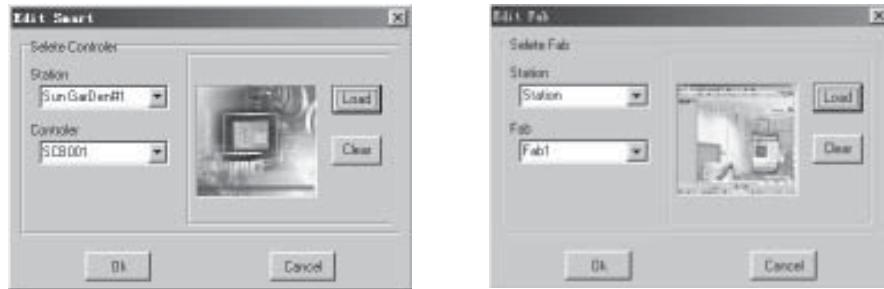

Fig. 4-32 Interface of Inserting FABs
2. Write down the picture of the corresponding FAB, as in Fig. 4-32, and the click **Confirm**. Thus the insertion of the FAB is complete.